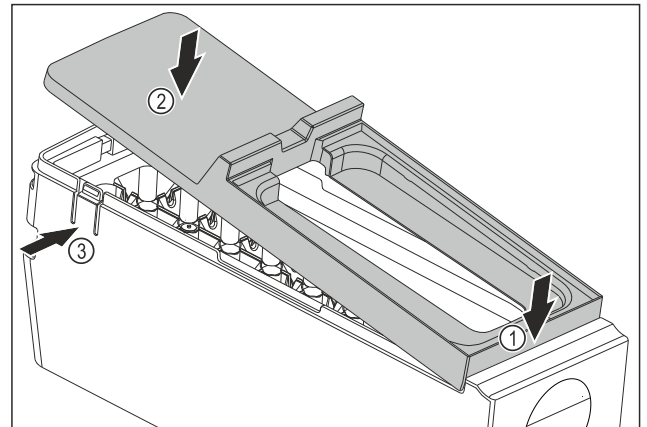

Fig. 139
- ▶ Installing the EasyTwist-Ice body cover: Place the cover on the front. Fig. 139 (1)
- ▶ Lower the cover at the rear. Fig. 139 (2)
- ▷ The cover locks into both tabs Fig. 139 (3) audibly.